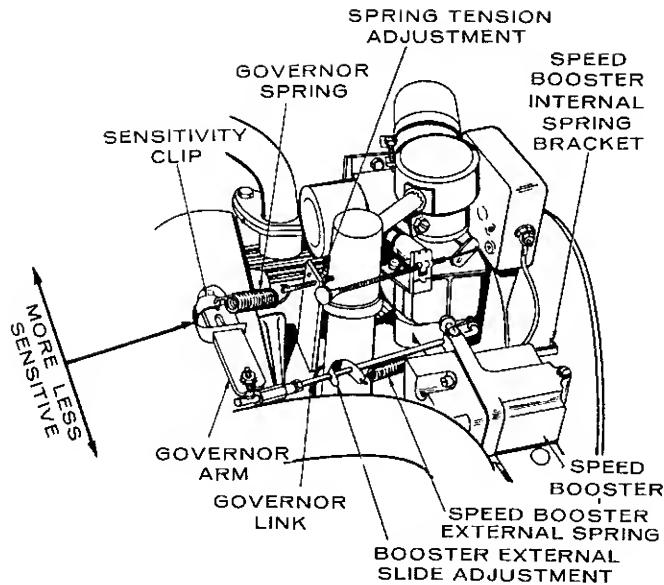

FIGURE 21. GOVERNOR AND SPEED BOOSTER
NOTE: If carburetor and the following governor adjustments have already been made and the governor action is still erratic, replace the governor spring (Figure 21) with a new one and readjust the governor. Springs lose their calibrated tension through fatigue after long usage.
2. Remove the speed booster external spring from the bracket slide on the governor link (Figure 21).
3. Refer to the voltage and speed charts. If needed, increase the speed by increasing tension on the governor spring (Figure 21). Decrease tension on the governor spring to reduce speed.
- Increase sensitivity (closer regulation) by shifting adjusting clip toward governor shaft (Figure 21). Move clip away from governor shaft to decrease sensitivity.
- After sensitivity adjustment, connect booster external spring to slide on governor link (Figure 21).
- If the speed increases more than the no-load frequency when the load is applied, lessen the speed booster's internal spring tension. To change tension, pull out the spring bracket and move the pin to a different hole (Figure 21). If speed decreases when the load is applied, increase the booster's internal spring tension.